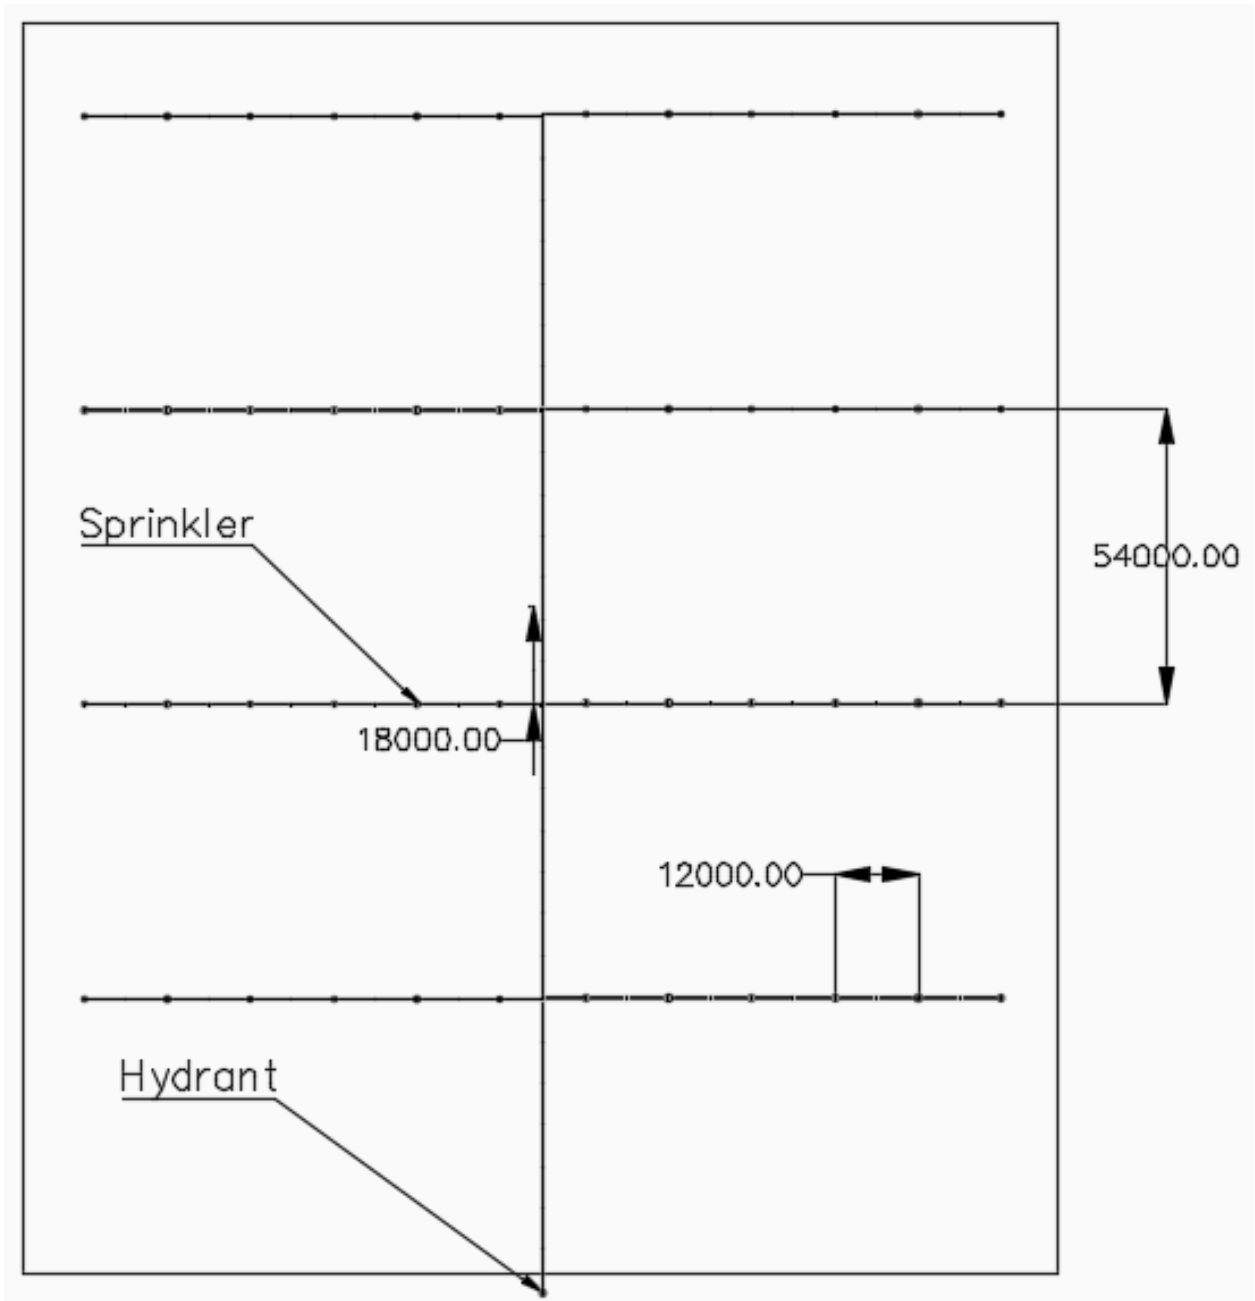

Figure 2: Typical schematic configuration of the layout of the sprinkler system for a hydrant in the middle of one side of the field
4.2. Moveable sprinkler irrigation system for 1ha, Layout 1 (HDPE Plastic system) (1 hydrant in middle of the side of the field) as a typical layout is shown in Figure 2.
(1 hydrant in middle of the side of the field) as a typical layout is shown in Figure 2.